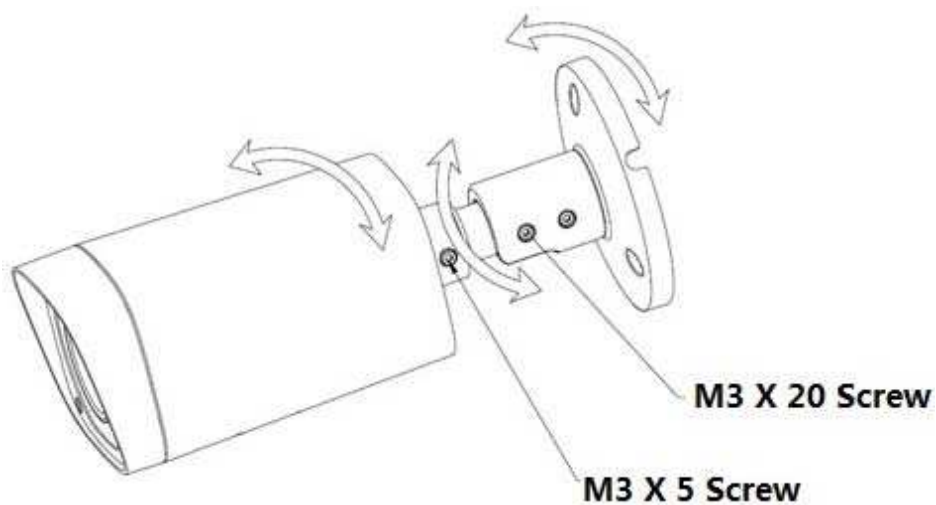

Figure 3-3
- If it is model a or model b, then loosen the M3 X 20 and M3 X 5 screws on the bracket according to the direction shown in Figure 3-3, adjust the camera to specific monitoring direction via rotating bracket and camera body, then fix the screws.